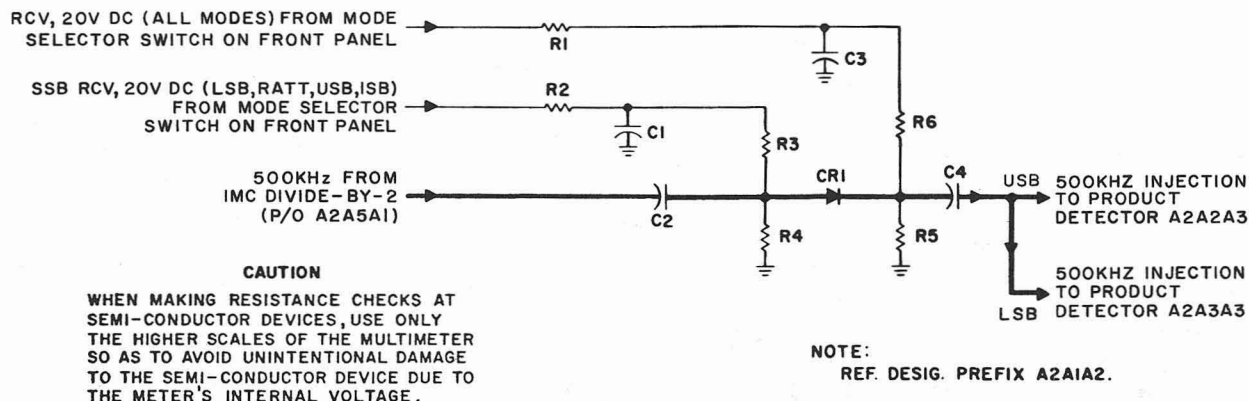

Figure 3-14. 500 kHz Filter and Gate, Simplified Schematic Diagram
1. 500 KHZ FILTER AND GATE. - The 500 kHz filter and gate A2A1A2 (figure 3-14), which forms a part of mode selector electronic assembly A2A1, gates the 500-kHz if. signal from the 1 mc divide-by-two circuit in frequency standard electronic assembly A2A5 to the product detector circuit in if./audio amplifier electronic assemblies A2A2 and A2A3. The 500-kHz gate circuit is used only during the LSB, RATT, USB, and ISB modes of operation. The following paragraphs describe the operation of this circuit for each of the indicated modes of operation in detail.